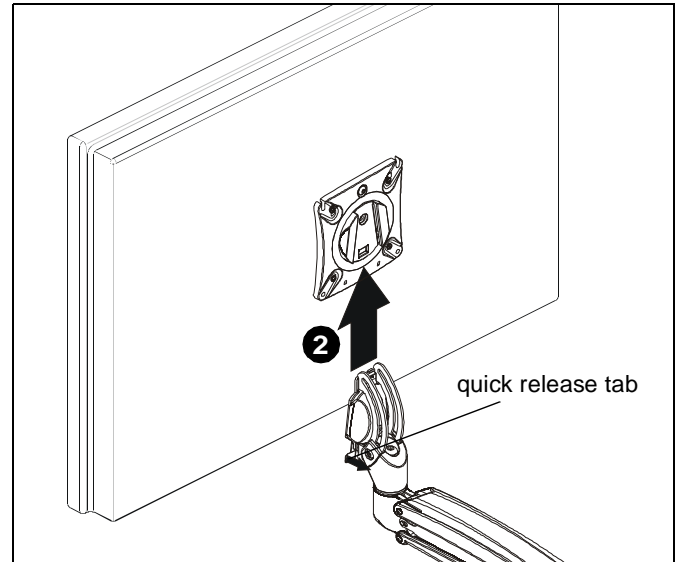

Figure 22
WARNING: Only remove display from mount when the display can be lifted up from the mount! DO NOT remove display unless the display is in the upright position! (See Figure 22)
2. Remove quick release faceplate from mount by pulling quick release lever and sliding faceplate off mount. (See Figure 22)